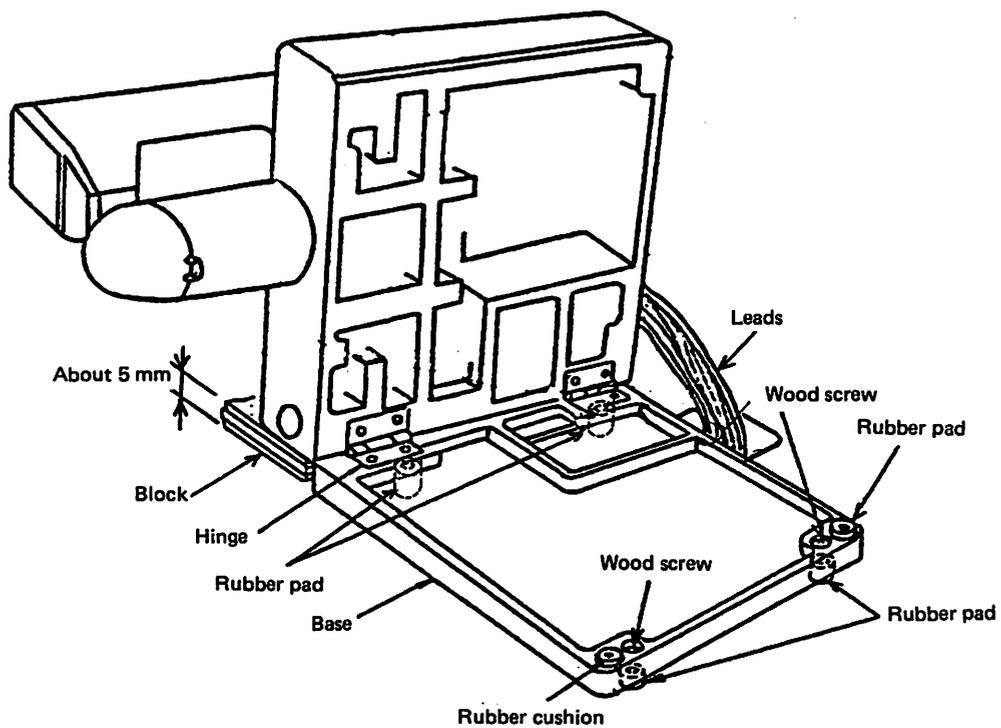

Fig. 3.2
- (2) Put each one rubber pad into four recesses found in the table.
- (3) Take out the machine head from the shipping case and place it on the table as shown in Fig. 3.2
- (1) If the base is not secured to the table, it may spring up, due to gravity of the head, when the head is leaned.
- (2) For prevention of spring up of the base, it is recommended to install a block of about 5 mm thick below the head, as shown in Fig. 3.2.